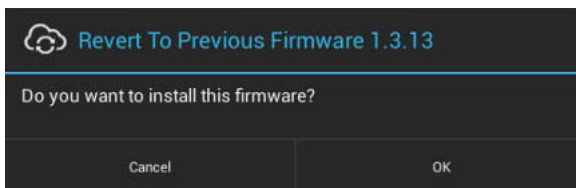

**FIG. 116** Firmware Manager window
Select **Firmware Manager** under UPDATE MANAGER in the *Reset and Update* page to access the Firmware Manager page (FIG. 116):
1. From the *Firmware Manager* window (FIG. 116), select *Revert to Previous Firmware*. If no previous version is available, this field is disabled.
1. From the *Firmware Manager* window (FIG. 116 on page 69), select *Revert to Factory Firmware*.
3. From the *Firmware Manager* window (FIG. 116 on page 69), select *Install Firmware from USB* to open the *KIT File Browser* window (FIG. 119).
If any firmware updates are available for the panel, the *Install Firmware From Web* option is presented on the Firmware Manager page (see FIG. 116 on page 69). Note that if High Security mode is set on the panel, web updates are not permitted. See the *SYSTEM - Security* section on page 60 for details on security modes.
1. From the *Firmware Manager* window (FIG. 116 on page 69), select *Install Firmware from Web*.